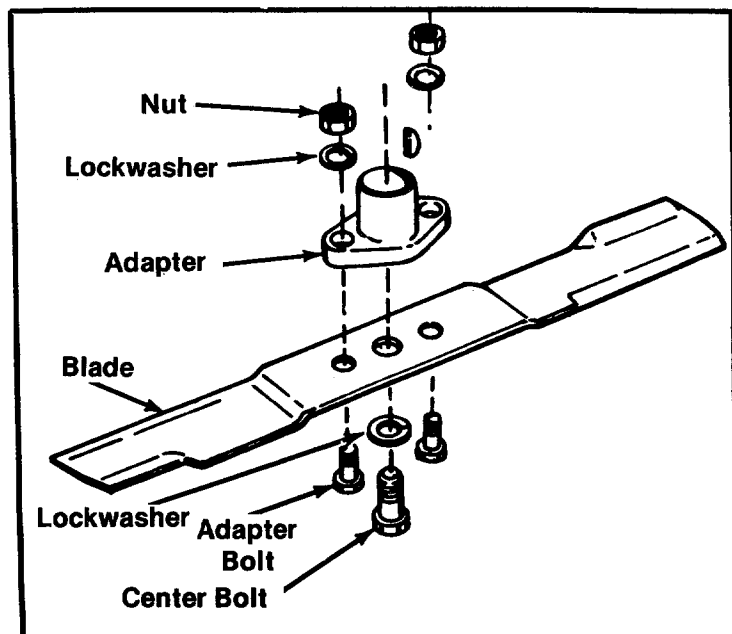

FIGURE 22. BLADE REMOVAL
- Step 2. Remove the blade by removing the hex head cap screw in the center of the blade. Hold the blade with one hand and using a ½" open end, box or adjustable wrench, remove the bolt. See figure 22.
Step 2. Remove the blade by removing the hex head cap screw in the center of the blade. Hold the blade with one hand and using a 1/2" open end, box or adjustable wrench, remove the nut. See figure 22.